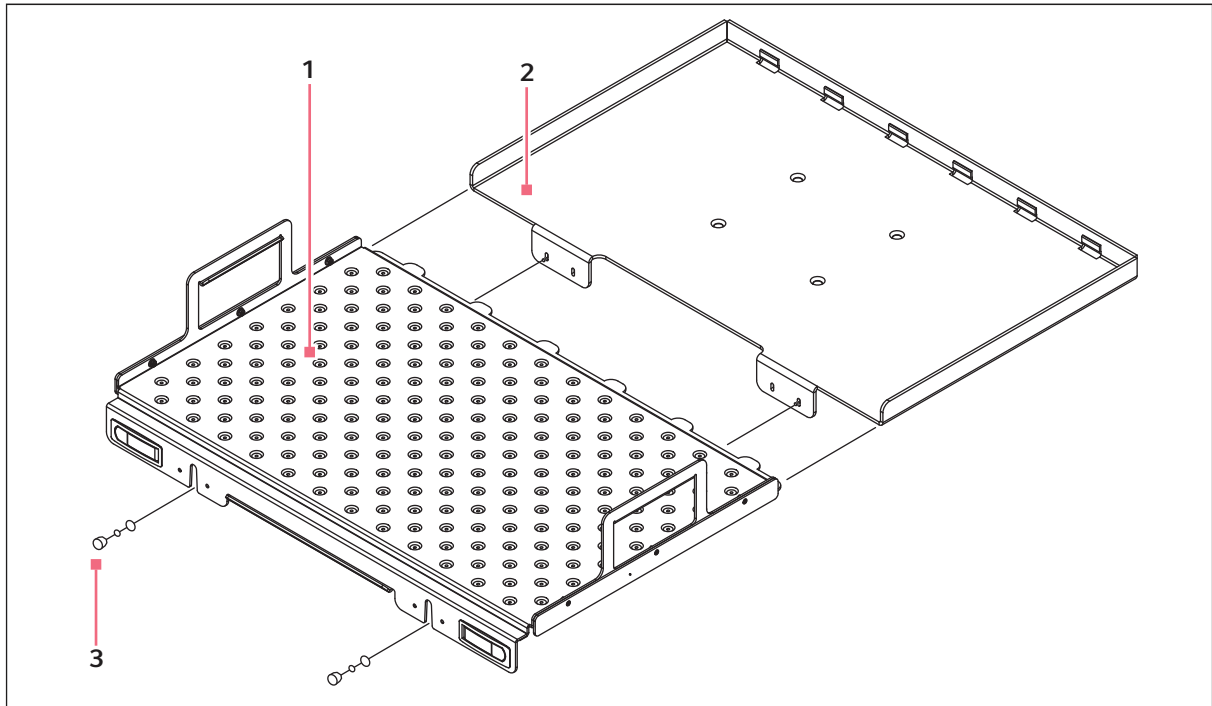

Fig. 1-4: Installing platform
4. Using the side handles of the platform (see Fig. 1-4 on p. 6), place the platform on the guide strips on the flat of the open door.